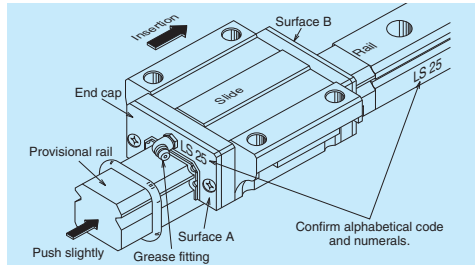

Fig. 10.23 Inserting slide into the rail
- Slides of random-matching type are assembled on a provisional rail (an inserting tool) when it is delivered (Fig. 10.23).
- (1) Wipe off the rust preventive oil from the rail and slide.
- (2) Please match a groove mark for the datum surface of slide and rail to set a desired assembling state W_2 or W_3 .
- (3) Align the provisional rail to the rail in the bottom and side surfaces. Press the provisional rail lightly against the rail, and move the slide over the rail (Fig. 10.23).